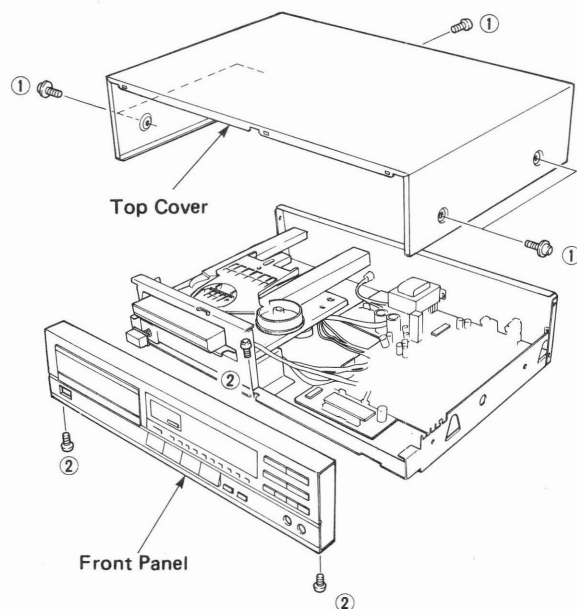

Fig. 1
- Remove 5 screws (①) in Fig. 1.
- Remove 3 screws (②) in Fig. 1, and pull the Front Panel forward.